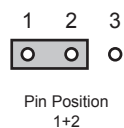

Figure 2.2 JP7 — Default Position
- **Pin 1** (left) + **Pin 2** (center) position — In this position, the analog reference is terminated with a 75 Ohm resistor. This configuration is to be used for point-to-point cabling, or on the last card of a daisy chain topology. This is the default position (**Figure 2.2**).